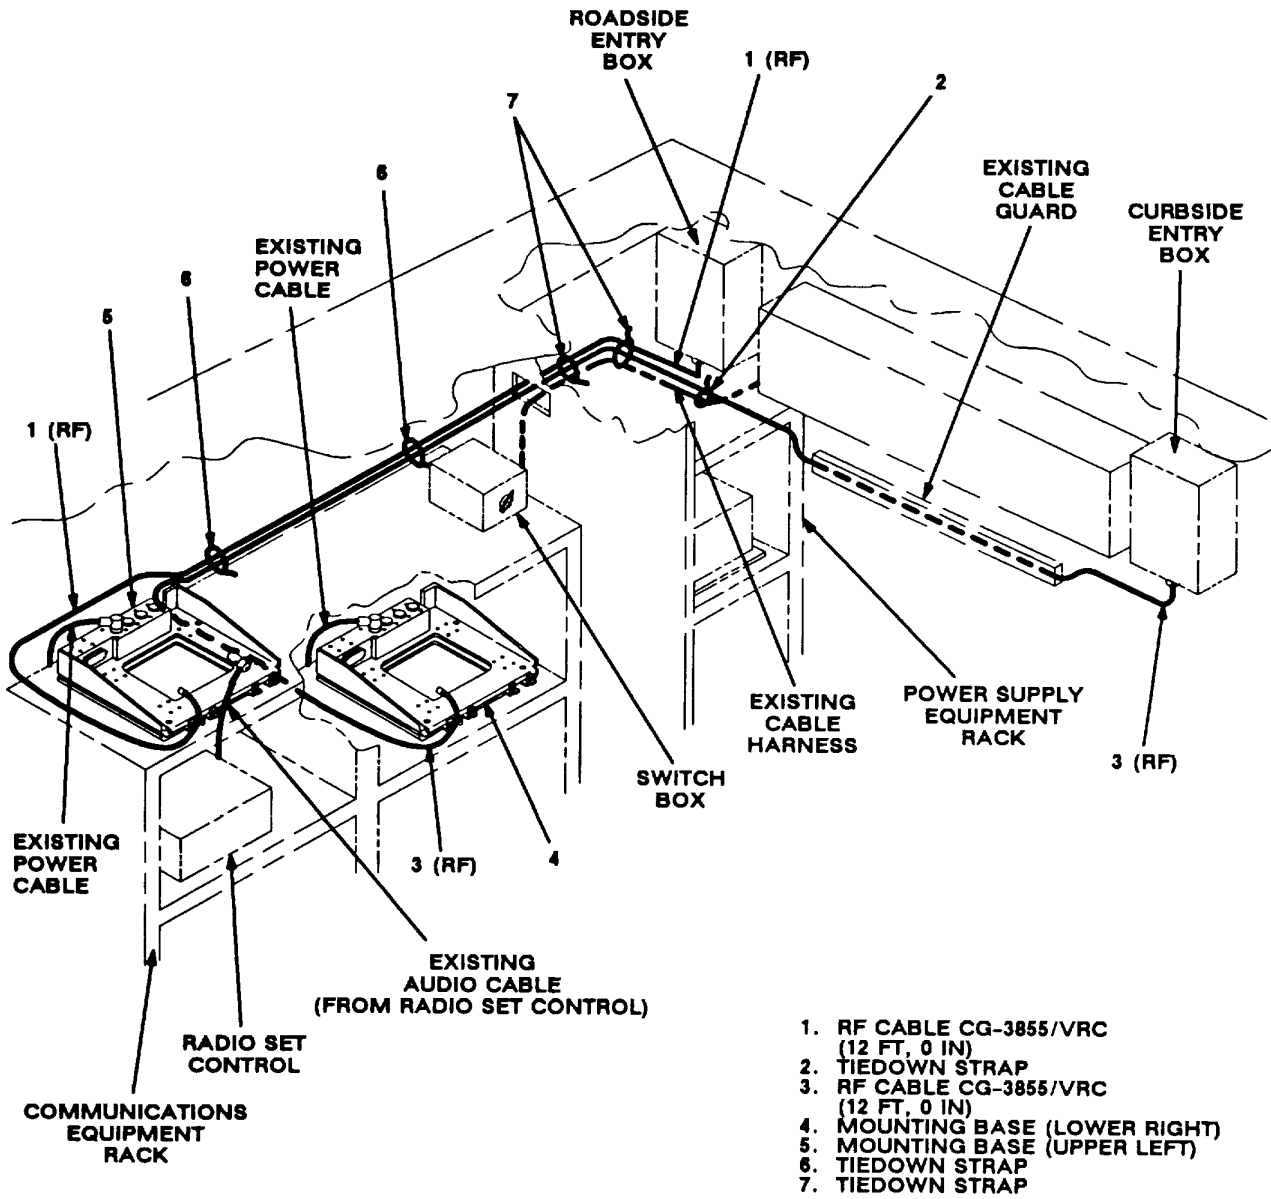

Figure 5-5 (2). Cable Installation: Interior Cabling
n. Two tiedown straps (7).	Wrap around two RF cables (1, 3); then secure to existing cable harness in rear of power supply equipment rack. See figure 5-5 (2) for location(s).
o. RF cable (3).	Route along rear of communications equipment rack and down to mounting base (4). See figure 5-5 (2).
p. RF cable (3) connector P2.	Position on top of mounting base (4).
q. RF cable (1).	Route along rear edge of communications equipment rack and behind mounting base (5).
r. RF cable (1) connector P2.	Position on top of mounting base (5).
s. Two tiedown straps (6).	Wrap around two RF cables (1, 3); then secure to existing cable harness behind communications equipment rack. See figure 5-5 (2) for locations.
t. Existing audio cable from switch box.	Position connector on top of mounting base (4). See figure 5-5 (2).
u. Existing audio cable from radio set control.	Position connector on top of mounting base (5).
v. Existing power cable	Connect and secure to mounting base (4) connector J1.
w. Existing power cable	Connect and secure to mounting base (5) connector J1.